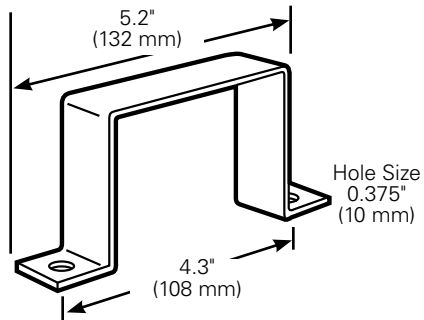

Figure 4. Stainless steel U-strap.
- Place one supplied U-strap (Figure 4) between each post of the loadbreak junction and using the supplied 5/16" hardware attach U-straps to apparatus mounting plate, securing the loadbreak junction in place.